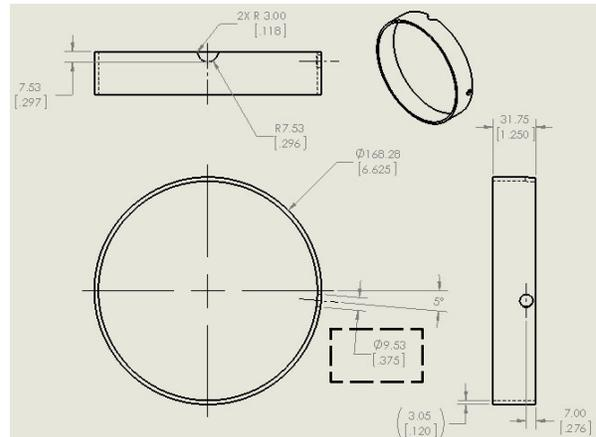
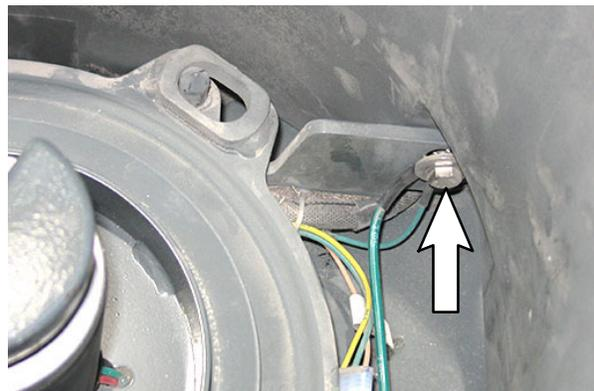

FIG. 7
FIG. 9
4. Drill another 0.375 in. (9.52 mm) into the filter weldment (for installing cable tie to secure the black wire (5)). (Fig. 7)
7. Place the filter shaker assembly back into hopper and connect the other end of the black wire (5) to existing hardware in the hopper. (Fig. 9)
8. Use a cable tie to secure the black wire (5) to the filter weldment and away from the moving parts on the filter shaker assembly. (Fig. 7/ Fig. 8/Fig. 9)